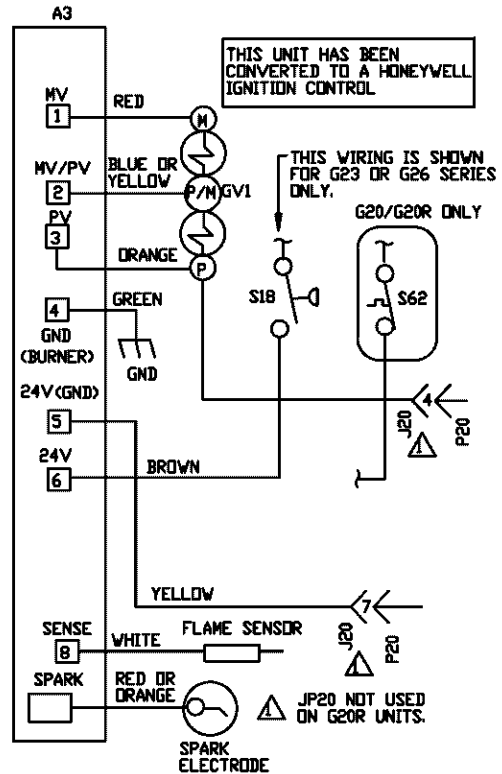

FIGURE 2
- 10- See figure 2 for the replacement of the ignition control wiring.